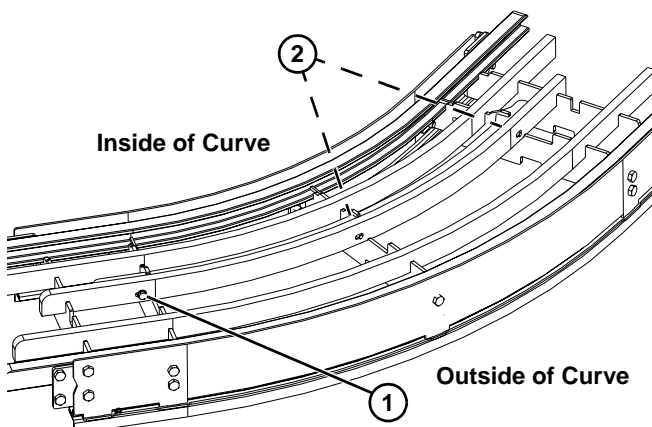

Figure 47
Insert the first screw on the infeed end of the curve section with the screw head (**Figure 47, item 1**) on the outside of the curve. The remainder of the screw heads (**Figure 47, item 2**) should be located on the inside of the curve.